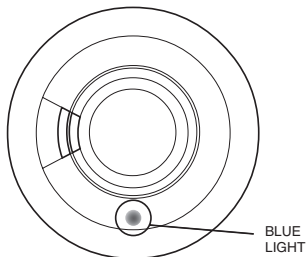

Figure 2b
7. When in the House Code mode, the blue light (on the front of the Alarm - see figure 2b) will flash a number of times every 5 seconds to indicate:
If the blue LED (see figure 2b) on the EIB605MTYRF flashes once every 10 seconds it indicates that the RF module battery is depleted and the RF module must be replaced.